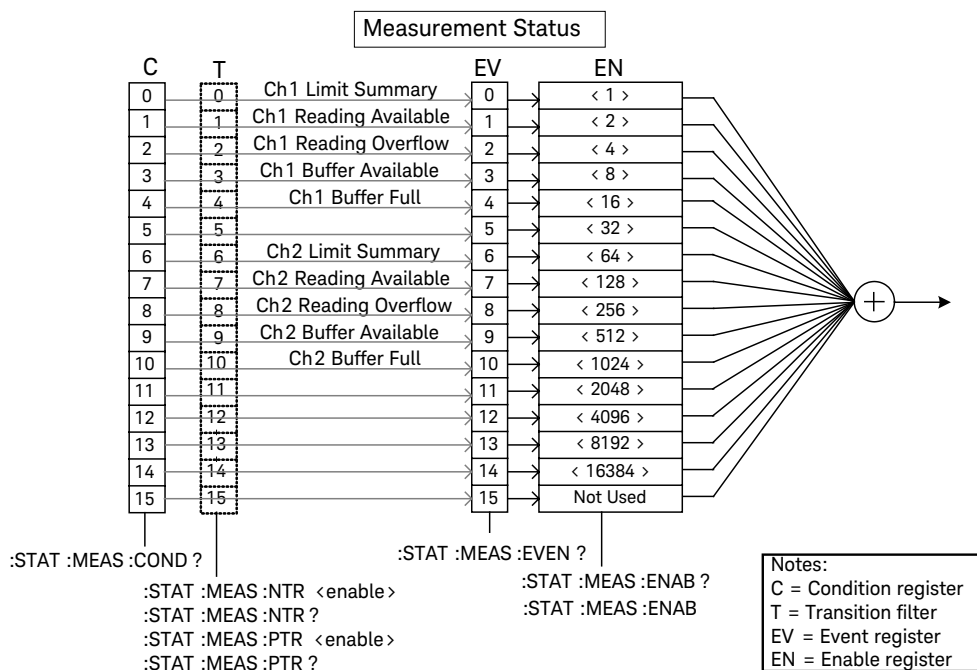

Figure 1-3 Questionable Status register
- Figure 1-3, “Questionable Status register.”